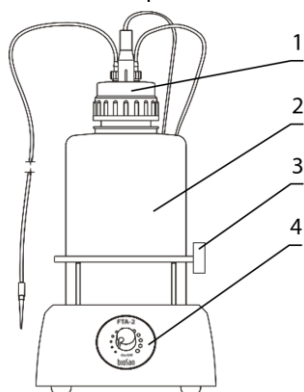
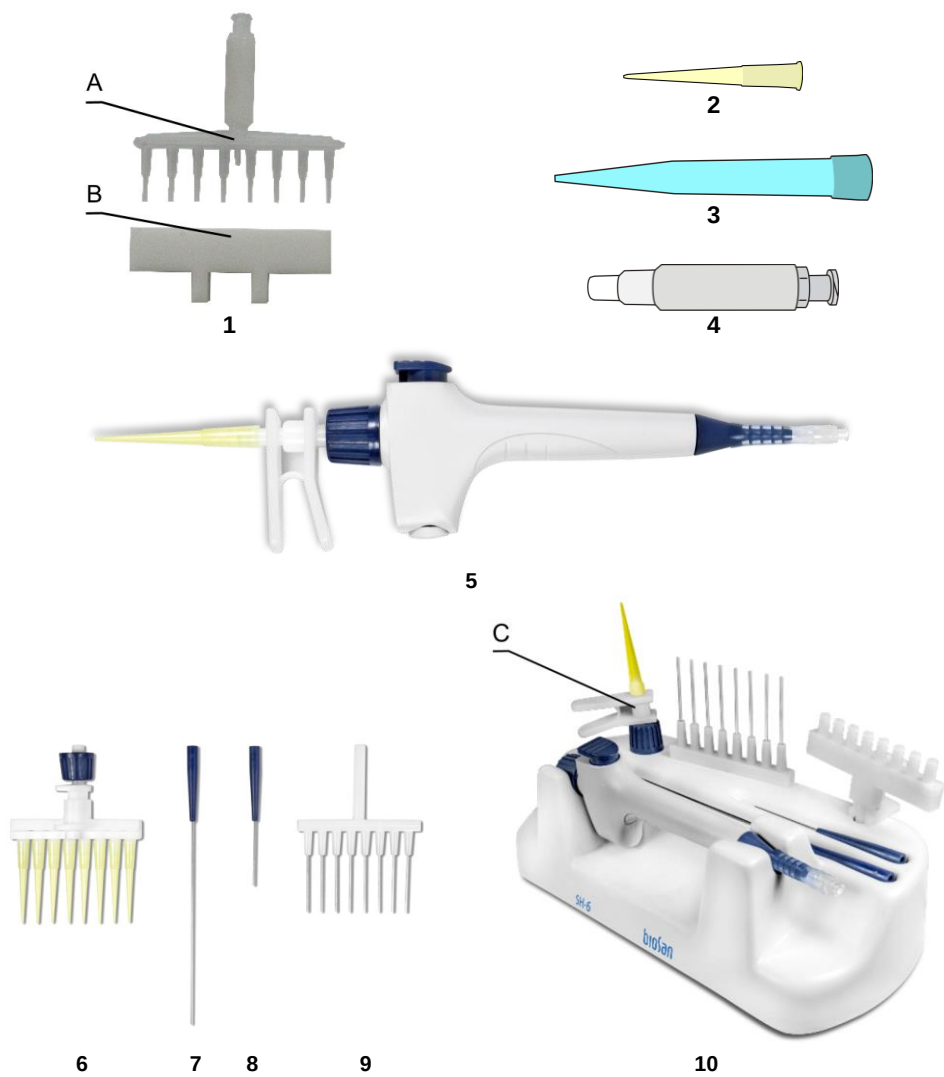

Figure 3. FTA-2i front view.
Figure 8. Optional accessories and replacement parts
- Install the trapping flask (fig. 3/2) on the unit.
- Screw on the lid with the sensor needles and valves for tubing (fig. 3/1) to trapping flask.
- Place the microtubes for aspiration tip into the holder (fig. 3/3).
4.4.1 **Optional MA-8 aspiration tip installation.** Remove microtubes and aspiration tip from the holder (fig. 3/3). Remove the aspiration tip (fig. 5/1) from the **MA-U** adapter and connect the **MA-8** aspiration tip (fig. 8/1A).
4.4.2 **Optional HAS-1 hand operator installation.** Unscrew the **MA-U** adapter from the aspiration tube (fig. 5/3) and connect the **HAS-1** hand operator (fig. 8/5) by screwing it to the fitting.
- 5.3 (For model **FTA-2i**) Regulate the aspiration intensity with the regulator knob on the front panel of the unit (fig. 3/4). Clockwise turning direction increases power, counter clockwise – decreases. Current intensity is indicated by a light ring around the regulator knob.
| MA-8 , 8-channel aspiration tip (fig. 8/1A) with holder (fig. 8/1B)                                                                                                                                                                                                                                                                                                                                                                                                                                                   | BS-040108-BK     |
| HAS-1 , hand operator set (only for FTA-2i ). Set includes:Handheld vacuum controller with adapter (fig. 8/5),8-channel adapter (with ejector) for 200 µL tips (fig. 8/6),1-channel adapter with 125 mm stainless steel pin (fig. 8/7),1-channel adapter with 40 mm stainless steel pin (fig. 8/8),8-channel adapter with 35 mm stainless steel pin (fig. 8/9),1-channel adapter (with ejector) for 200 µL tips (fig. 8/10C),Stand SH-6 for hand operator parts (fig. 8/10) | BS-040118-PK     |
| Aspiration tip, 200 µL, 1000 pcs. (fig. 8/2)                   | BS-000001-S04    |
| Aspiration tip, 8 channels, for MA-8 (fig. 8/1A)        | BS-040108-S24    |
| MA-U , universal adapter for 200/1000 µL single use tips (fig. 8/4) | BS-040118-AK     |
| Aspiration tip, 200 µL, 1000 pcs. (fig. 8/2)                               | BS-000001-S04    |
| Aspiration tip, 1000 µL, 1000 pcs. (fig. 8/3)                              | BS-000001-S05    |
| Aspiration tip, 8 channels, for MA-8 (fig. 8/1A)                    | BS-040108-S24    |